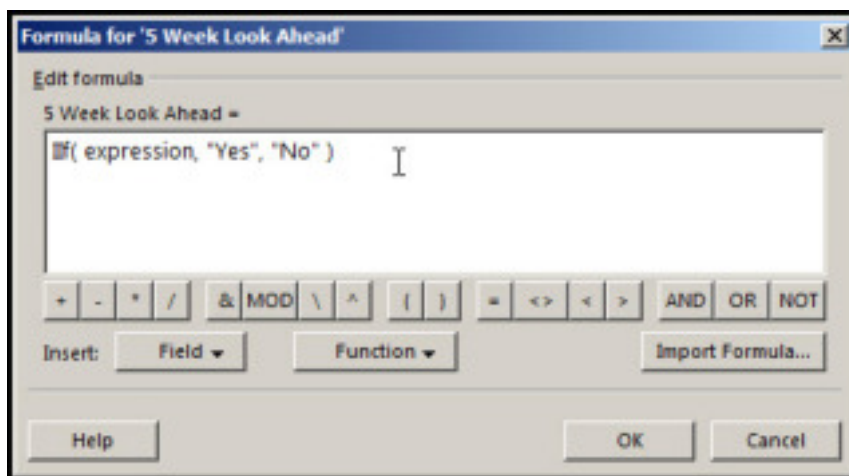

Figure 6
- F. Set the truepart to "Yes" and the falsepart to "No", Figure 6. (Change your formula so it reads as shown in Figure 6).